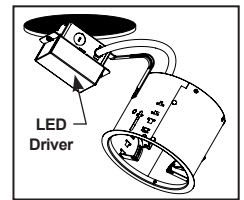

Figure 4
Step 5. Press housing through ceiling opening so it is flush to ceiling (Fig. 4). Push retention clips outward until each clip tab clicks into position. A single "T" slot clip is provided for additional support. Insert clip through "T" slot from inside housing, force clip down with screwdriver until clip is seated. Secure clip by tightening screw (Fig. 5). *Note: To remove housing from ceiling, push tab on clip upward to disengage.*